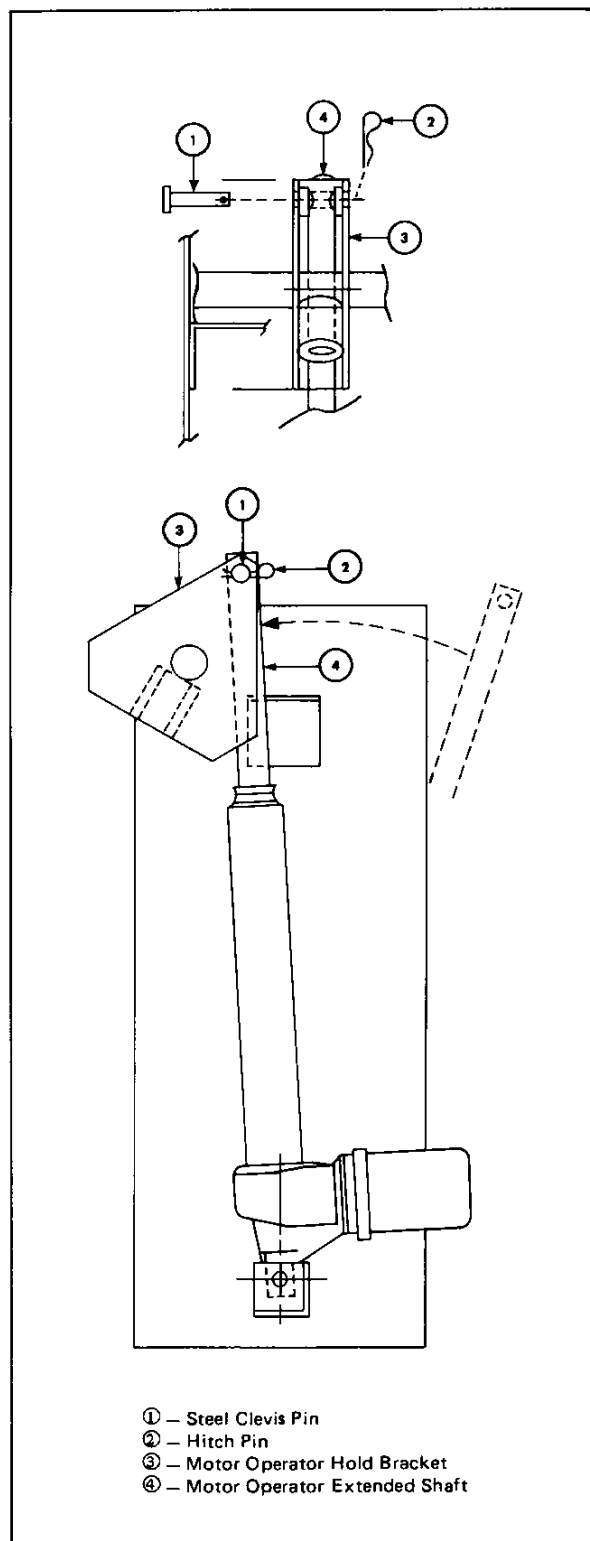

Fig. 22 Manual Operation
8.4 Manual Operation (See Fig. 22)